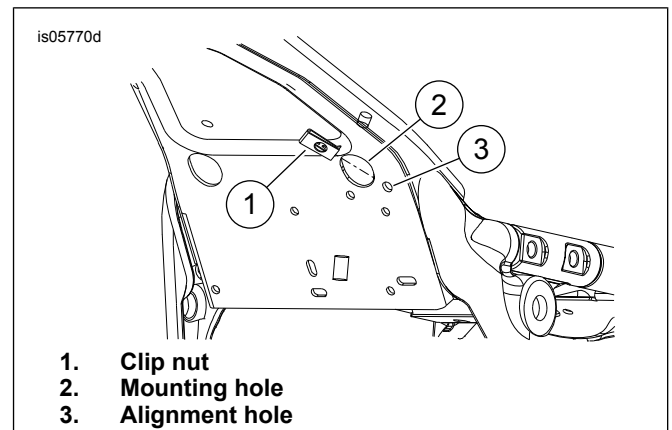

Figure 4. Install Clip Nut
1. See Figure 4. Install clip nut (1) in mounting hole (2).
2. Align clip with alignment hole (3).